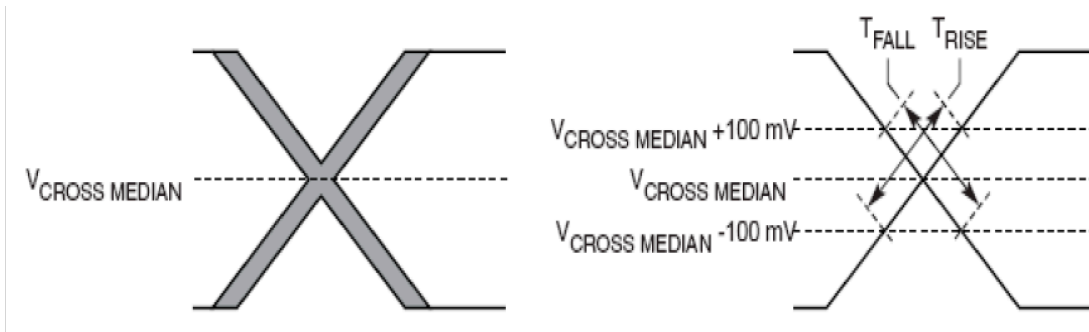

Figure 43. Single-Ended Measurement Points for Rise and Fall Time Matching
- Matching applies to rising edge for SD_REF_CLKn and falling edge rate for SD_REF_CLKn_B. It is measured using a 200 mV window centered on the median cross point where SD_REF_CLKn rising meets SD_REF_CLKn_B falling. The median cross point is used to calculate the voltage thresholds that the oscilloscope uses for the edge rate calculations. The rising edge rate of SD_REF_CLKn should be compared to the falling edge rate of SD_REF_CLKn_B; the maximum allowed difference should not exceed 20% of the slowest edge rate. See Figure 43.